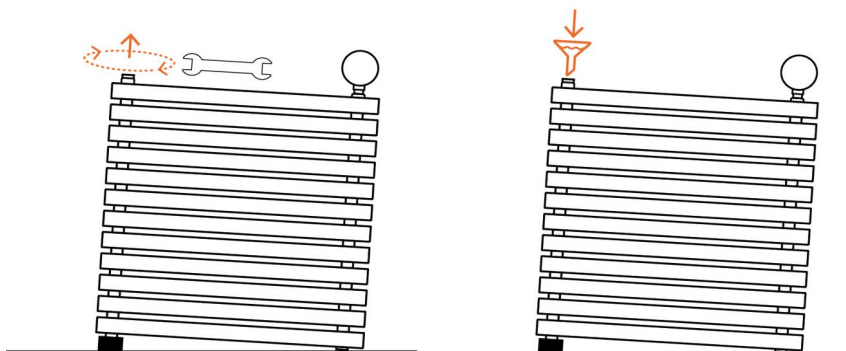
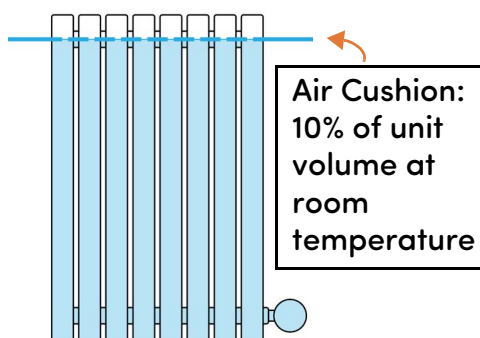

Figure 4 | Removing radiator cap and using funnel to fill
Figure 5 | Air cushion requirement
6. If the radiator has been pre-filled by the manufacturer, skip to the next step. If the radiator is yet to be filled, tilt the radiator so the next free filling cap is at the highest point. Remove the cap and fill the radiator to 90% of its volume with a suitable heating medium (**Figure 4 & Figure 5**). This should be a glycol-based formulation approved by the radiator manufacturer. Replace cap when done.